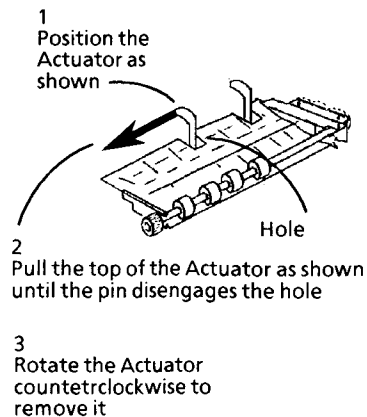

Figure 1. Removing the Actuator
3. Remove the screws (2) from the Paper Size/Feed PWB.
4. Remove the Actuator (Figure 1).
1. Install the Actuator (Figure 1).